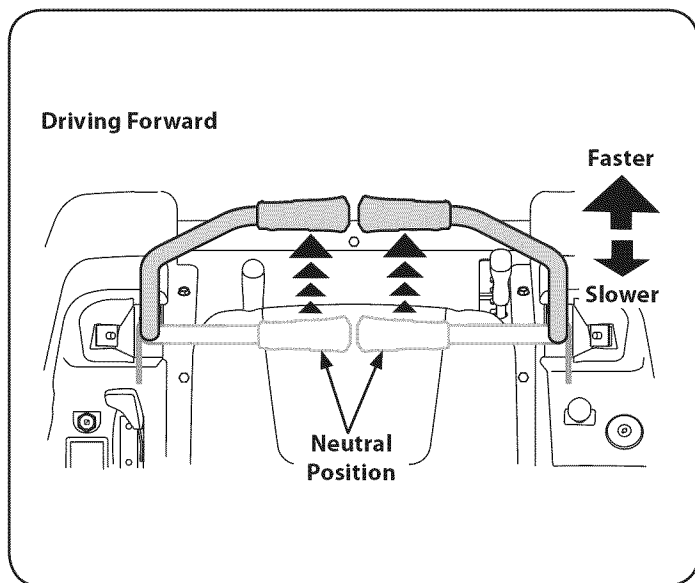

Figure 14
1. Slowly and evenly move both drive control levers forward. The riding mower will start to move forward. See Figure 14.